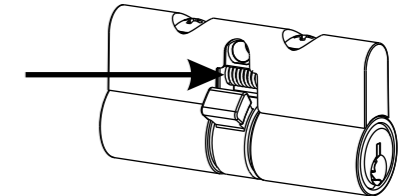

Figure 2
Installing the BOTTOM Lock (Figures 2 & 3)
- 1 Attach the bottom lock assembly **drive box** to the Ultimate **centre lock**, ensure the **coupler** fits over the **location pins** (Figure 2).